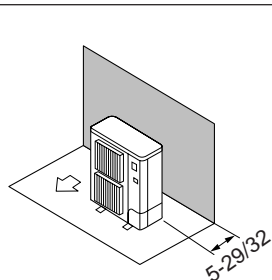

Fig. 2-2
- ① Obstacles at rear only (Fig. 2-2)